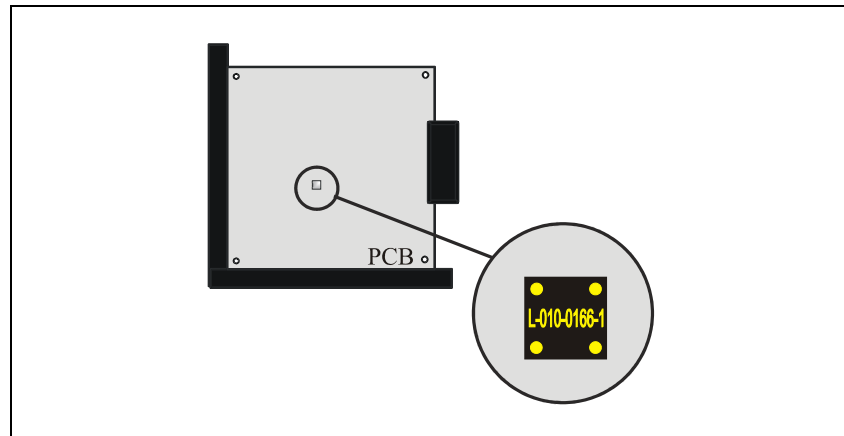

Figure 5-26. Jagged edge to the left
4. Put the L-010-0166-1 calibration component on the board, see Figure 5-26.